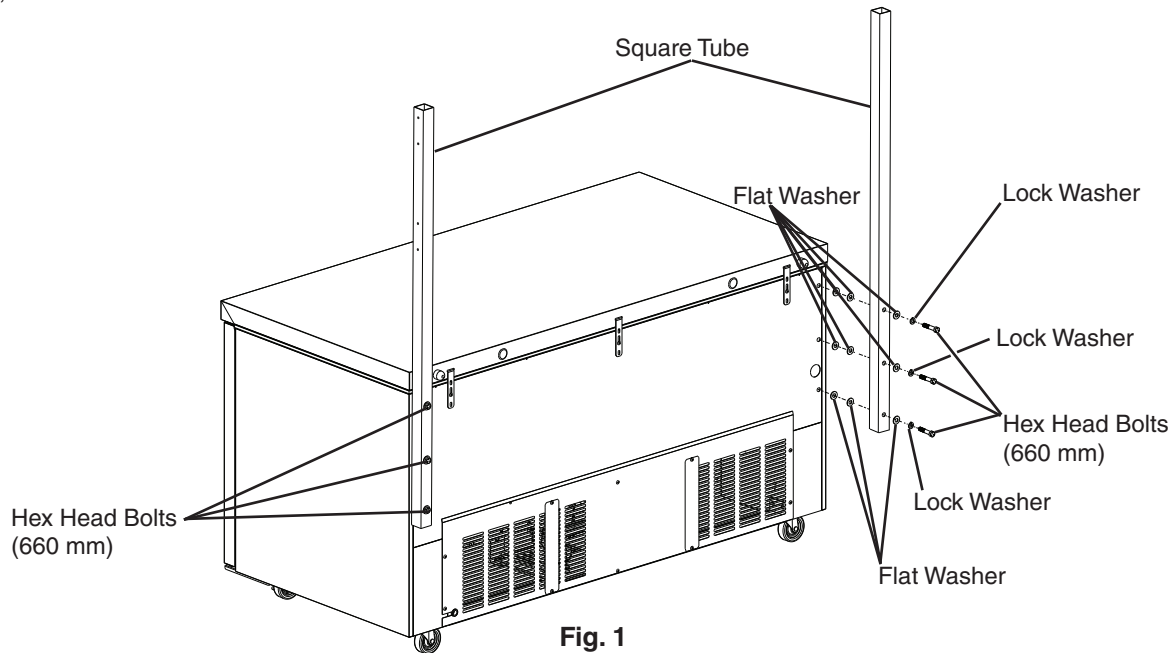

Fig. 1
- 2) Using the hex head bolts, flat and lock washers provided, secure the square tube to the rear panel. See Fig. 1. Snug, but do not tighten, the hardware.